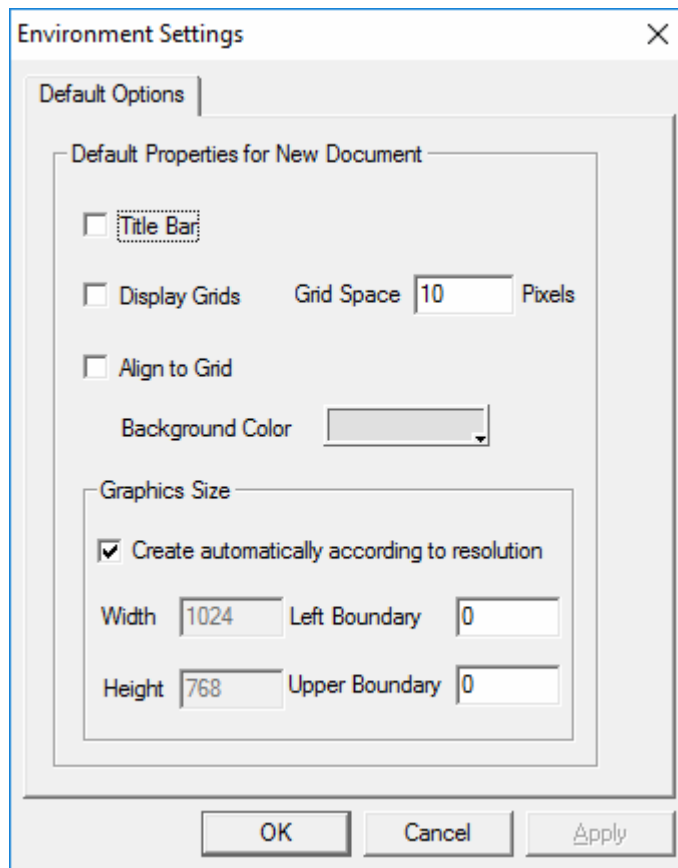

Figure 3-18 Options—Environment setup interface
- **Options:** It is used to set the page properties of newly built graphics. The settings include: Title Bar, Display Grid and Grid Space when editing, Align to Grid, Background Color and Graphics size. The setting interface is shown in Figure 3-18.